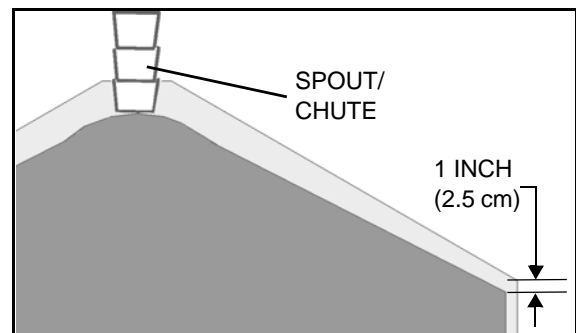

Figure 3.2
- 5. Use of a spout or chute will help prevent overfilling of the bin and obtain the most amount of storage from the bin, see Figure 3.2.
Important: *Bin is full when filled to no more than 1" below the eave, see Figure 3.2. Overfilling can cause roof failure and create hazardous situations if the inspection hatch opened.*